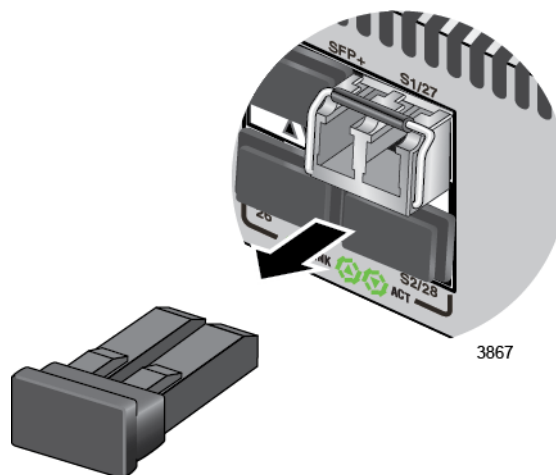

Figure 63. Removing the Dust Cover from an SFP+ Module
4. Remove the dust cover from the SFP+ module, as shown in Figure 63.